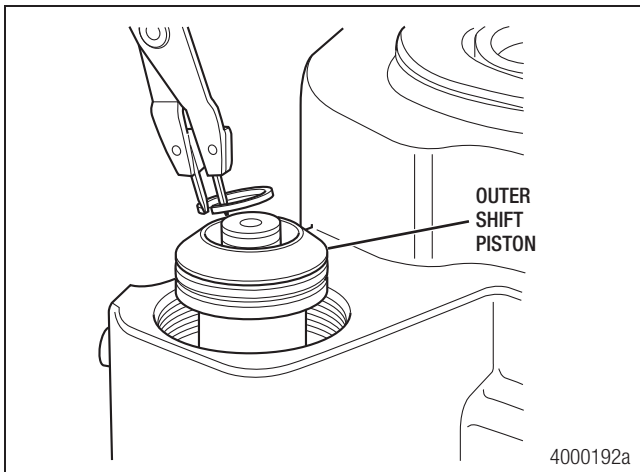

Figure 5.19
- Remove the outer shift piston snap ring from the shift shaft. Remove the shift piston. Figure 5.19.